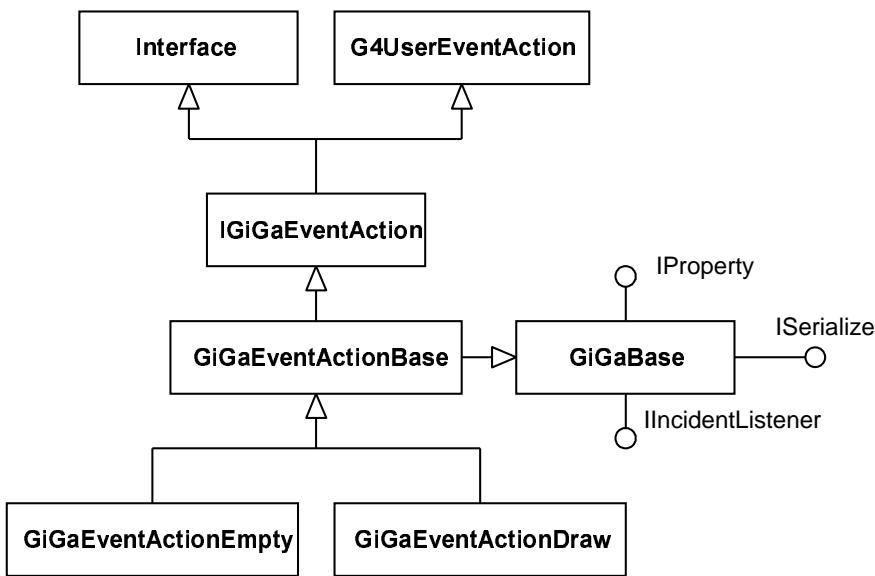

Figure 4.4: The class diagram for **GiGaEventAction** classes
**GiGA** provides the possibility of instantiation of such objects using abstract factories approach. To get this behaviour the intermediate abstract interface **IGiGaEventAction** is defined by merging **G4UserEventAction** class with **IInterface** interface. Then one could reuse the standard approach of abstract factories to instantiate such objects. The simplified class diagrams are shown on figure 4.4.